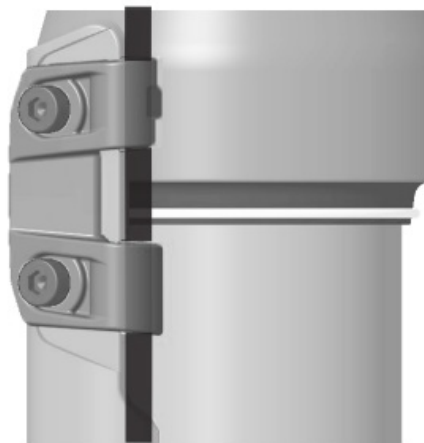
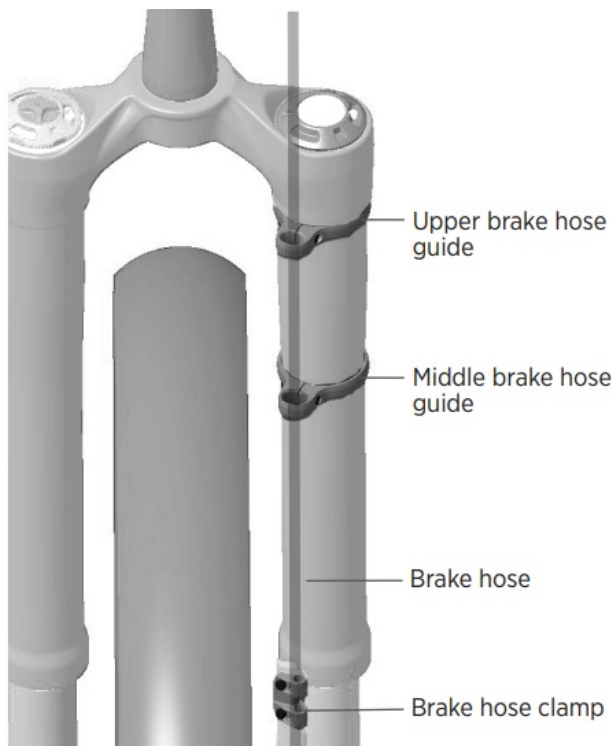

Figure 13: Install the brake hose clamp screws
Figure 14: Full view of brake hose routing through brake hose guides and into mast
2. Route the front disc brake hose or cable housing along the inside of the left lower tube. Then, install the brake hose into the opening on the brake hose clamp (Figure 13). Verify the brake hose has ample length on the inside so that the upper tube does not contact the brake hose during compression of the fork (Figure 14). Use a 2.5 mm hex wrench to loosely install the two brake hose clamp screws, as further adjustments will be needed in a later step.